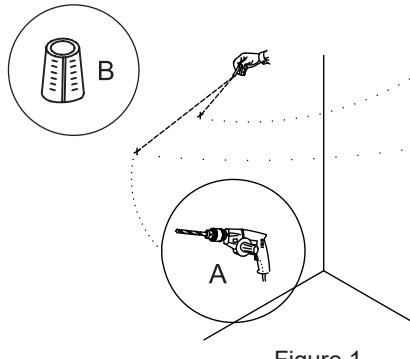

Figure 1
**1:** 1) Determine the desired location of the mirror. 2) Mark the location of the mounting screws on the wall, ensuring that they are level. Figure 1. It is recommended that the mirror be installed to at least 1 wall stud. In order to locate wall studs, you can use a stud finder or tap along the wall until you find a spot that sounds solid. If you are unable to locate a wall stud, it is recommended that you use wall anchors (B - not included) to secure your mirror.